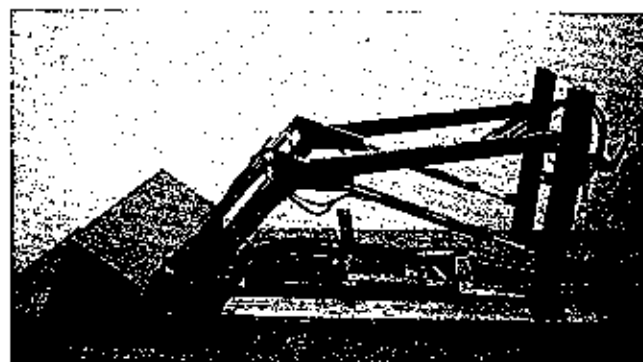

Figure 2
1. After the shipping carton and bands have been removed as in Figure 1, remove and lay aside the left and right angle iron braces which will be covered by instructions to follow, then slide lift frame and upright assembly forward until the front lift arms are off of the pallet. At this time remove the bucket from its shipping carton and pin to the lift arms and tilt cylinders. Figure 2.